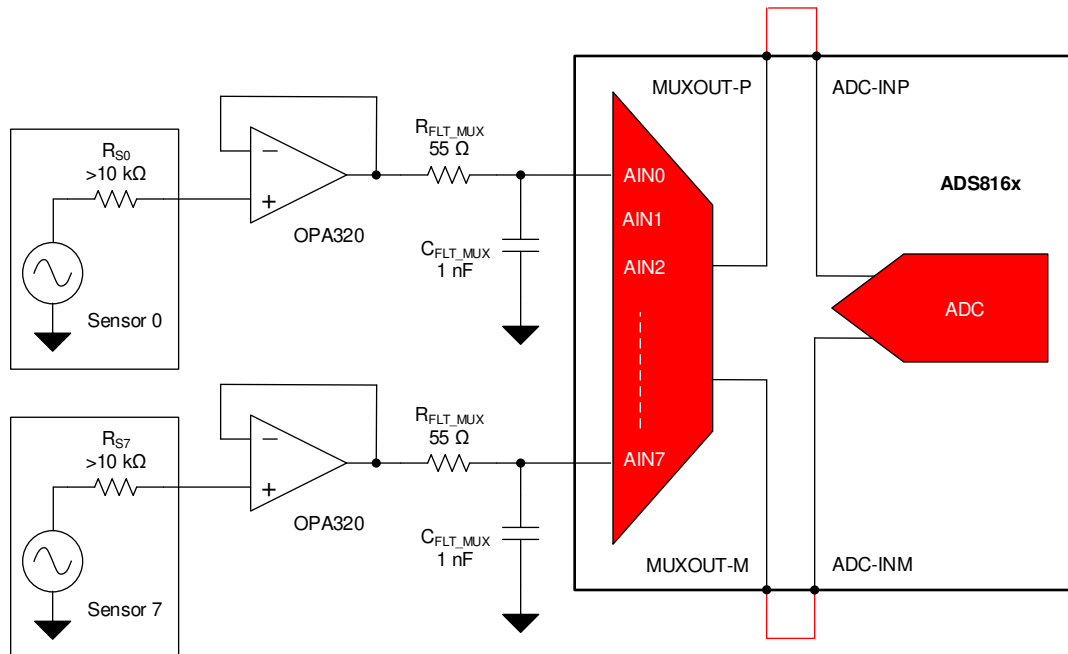

图 100. High Output Impedance Sensor Interface
In some applications, such as temperature sensing, the sensor output impedance can be greater than 10 kΩ. When scanning the multiplexer channels at high throughput, the relatively higher driving impedance results in a settling error. In such cases, 图 100 shows that the multiplexer inputs can be driven using an amplifier. The multiplexer outputs can be connected to the ADC inputs directly. For best distortion performance, an amplifier can be used between the multiplexer and the ADC as described in the Selecting an ADC Input Buffer section.
- Select an input amplifier for rapid settling when the multiplexer switches channels. This selection is covered in the *Multiplexer Input Connection* section. The OPA320 buffer and associated RC filter illustrated in 图 100 meet these requirements.